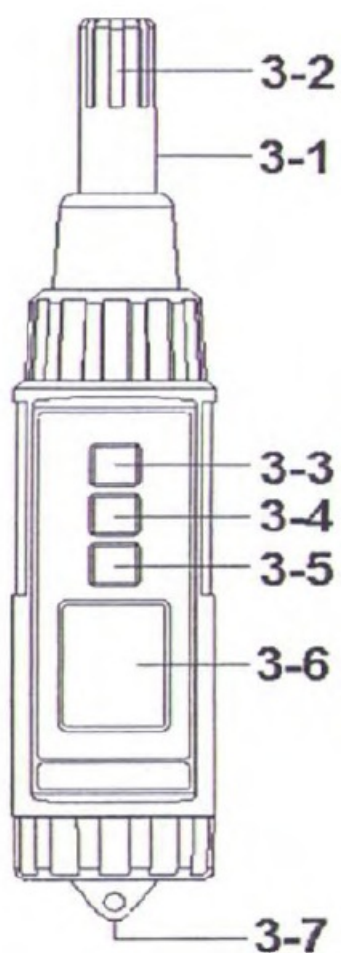

Fig. 1
1. Turn on the meter by pressing the " Power Button 11 (3-3, Fig. 1) momentarily.
Pressing the " Mode Button " (3-5, Fig. 1) continuously (not releasing the button), the Display will show the following 4 kinds of screens in sequence :
Until the Display show the desired model (Function), just release the " Mode Button " (3-5, Fig. 1), the meter will execute this function with default.
2. Turn on the meter by pressing the II Power Button 11 (3-3, Fig. 1) momentarily.
3. Under the Barometer mode, pressing the " Unit Button 11 (3-4, Fig. 1) continuously (not release the button), the upper Display will show the following indicator in sequence:
Until the Display shows the desired unit, just release the II Unit Button " (3-4, Fig. 1), the meter will execute this measuring unit with default.
2. Use one finger to press (not release) the " Hold Button " (3-4, Fig. 1), turn on the meter by pressing the "
Power Button " (3-3, Fig. 1) momentarily, until the temperature unit (0c, °F) of Display is lit, then release the
1. Turn on the meter by pressing the II Power Button " (3-3, Fig. 1) momentarily.
1. Turn on the meter by pressing the II Power Button" (3-3, Fig. 1) momentarily.
1. Turn on the meter by pressing the II Power Button 11 (3-3, Fig. 1) momentarily.
- During the measurement, press the " Hold Button " (3-4, Fig. 1) momentarily to hold the measured value. The LCD will show a II HOLD" symbol.
1. The data record function records the maximum and minimum readings. Press the II REC Button " (3-5, Fig. 1) momentarily to start the Data Record function, shows II REC " on the display.
1. Press the II REC Button " (3-5, Fig. 1) momentarily, the " REC MAX 11 symbol along with the maximum value will appear on the display.
2. Press the" REC Button 11 (3-5, Fig. 1) momentarily again, the II REC MIN II symbol along with the minimum value will appear on the display
2. To deactivate this feature, Select the memory record function during measurement, by pressing the ” REC Button ” (3-5, Fig. 1).
- To change the batteries, open (rotate clockwise direction) the ” Battery Cover ” (3-7, Fig. 1) .